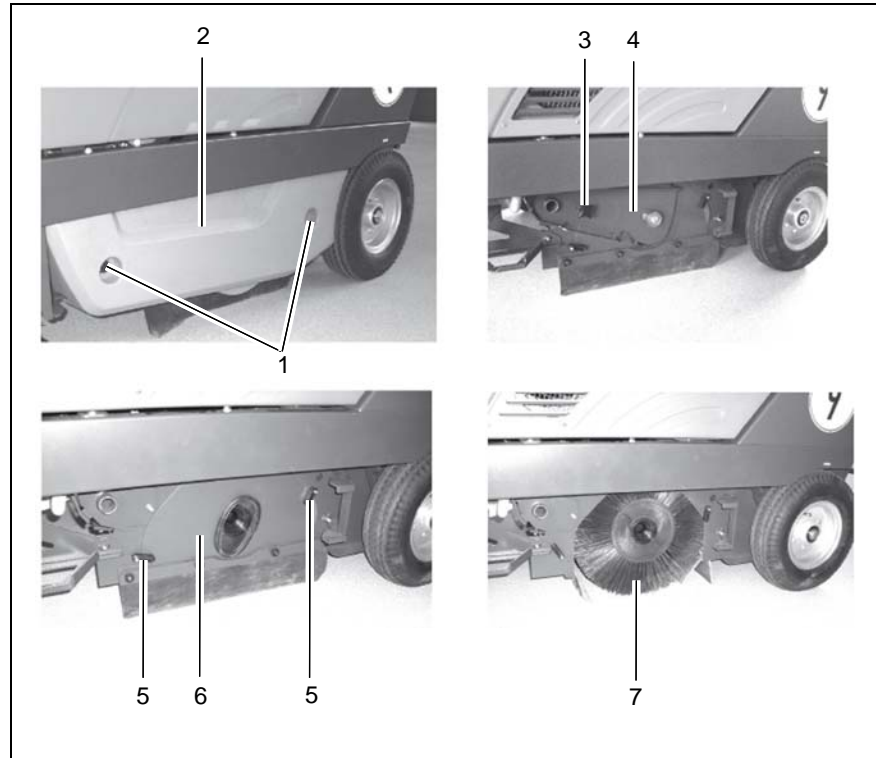

Fig.12
- Open locks (Fig. 12/1) by enclosed square spanner (turn counter-clockwise).
- Remove cover (Fig. 12/2).
- Loosen star-shaped knob (Fig. 12/3) and remove.
- Remove sweeper roller seating (Fig. 12/4).
- Turn handle (Fig. 12/5) upwards and unlock.
- Remove plate with sealing strip (Fig. 12/6).
- Remove sweeper roller (Fig. 12/7) by pulling.